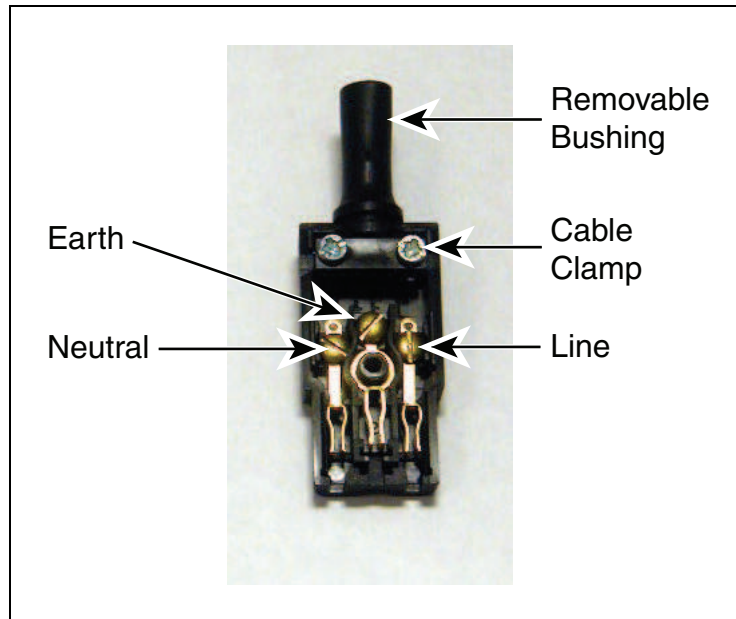

Figure 4-7. AC Power Mating Connector
3. Loosen the two screws on the cable clamp. See Figure 4-7.